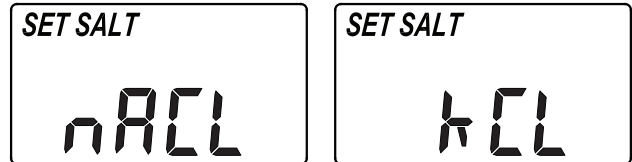

FIG. 23
2. When the desired recharge start time is displayed, press the SELECT button, and the display will change to show one of the salt type screens in Fig. 23.